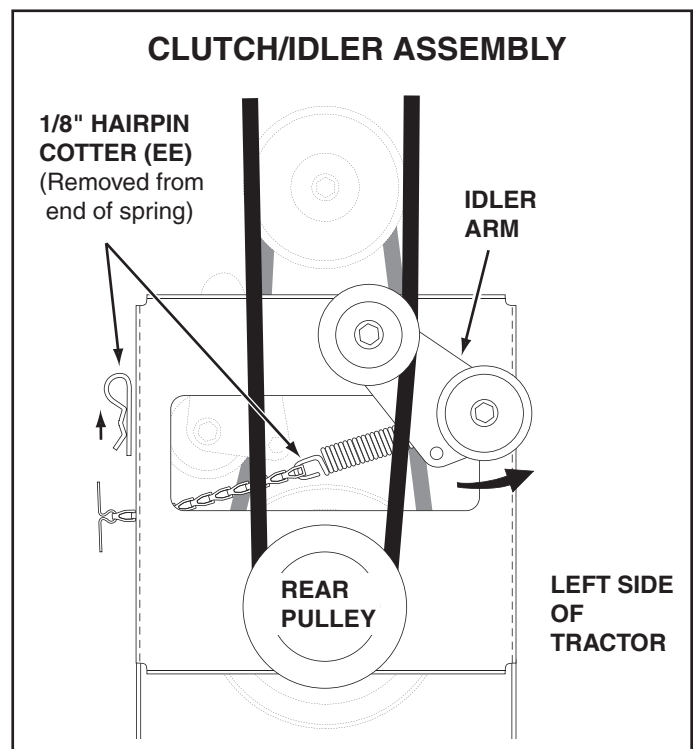

FIGURE 56
STEP 57: (SEE FIGURE 56)
- Remove the 1/8" hairpin cotter (EE) that secures the end of the idler arm spring to the right side of the clutch idler assembly. Swing the idler arm to the left side.